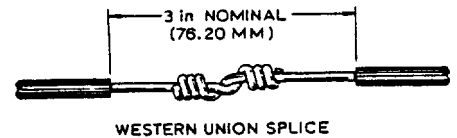

FIGURE 3.
3. For each splice, use two 12 inch (304.8MM) lengths of insulated conductors and strip a 2 inch (50.80MM) length of insulation from one end of each. Connect the two bared conductors together by means of an inline (Western Union) splice (see Figure 3 below). The ends of the conductor shall be crimped down with pliers to avoid sharp projections.